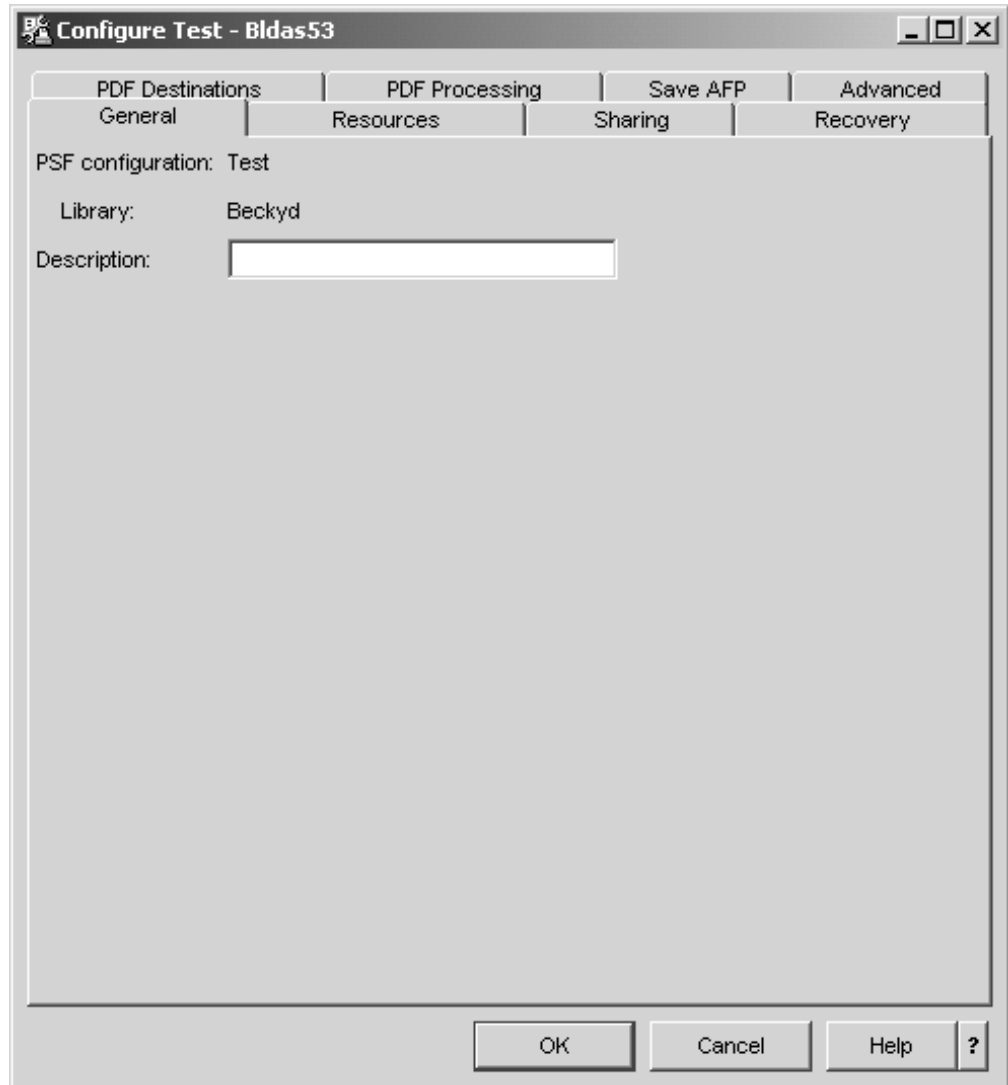

Figure 184. Configure PSF Configuration Window
6. Right-click the PSF configuration object you want to change and select **Configure**. The window shown in Figure 184 on page 273 opens, with the name of the PSF configuration object in the title.